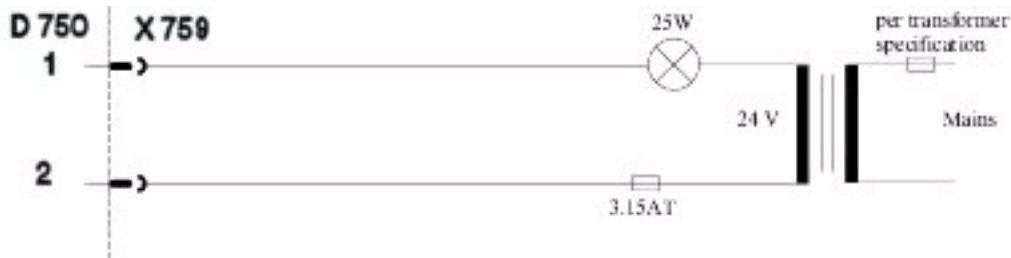

Fig. 2 Connecting the exposure lamp
1. Connect the exposure lamp to the connector X759 located on the Master board D750, see Fig. 2.